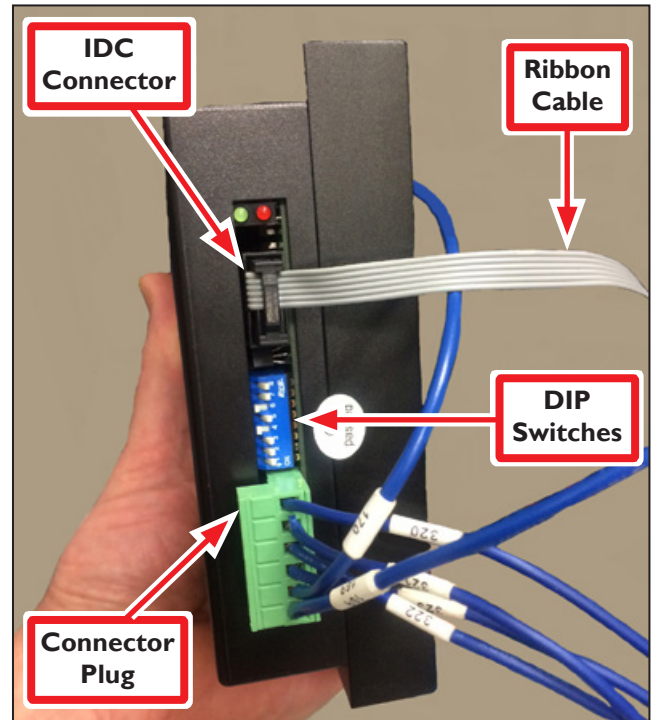

Figure 13
2. Plug Ribbon Cable into IDC Connector on drive (see **Figure 13**).
3. Locate Connector Plug on drive; this is for power (see **Figure 13**).
5. Match DIP switch (see **Figure 13**) settings on drive as detailed in technical document *TD10173* (included).
3. Confirm the wire clamps in the Connector Plug (see **Figure 13**) are clamping on the copper wire and not on the plastic insulation around the copper wire.